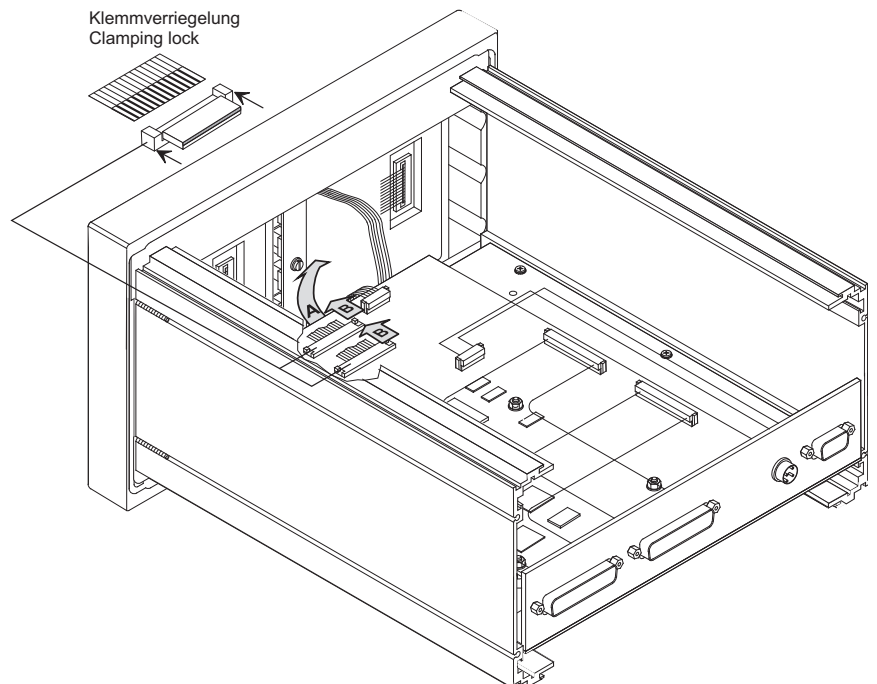

Fig. 8-25: Removing connecting cables and data cables
6. Take out the display connecting cables at the bottom side (fig. 8-25, A). Then loose the locker of the display's data cables at the upper side of the main pcb (fig. 8-25, B) and remove them carefully. Avoid damage of the flat cables because of canting.